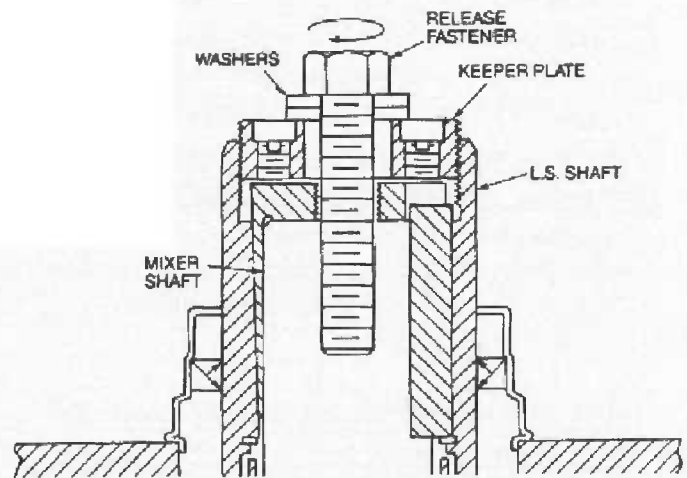

Figure 24 — Removing the unit from installation
d. Refer to Fig. 24. Thread a hex-head fastener with a flat washer through the keeper plate hole into the tapped hole in the mixer shaft. (See Table 20 below for fastener size recommendations.) Tighten the fastener until the tapered bushing breaks free from the hollow shaft.